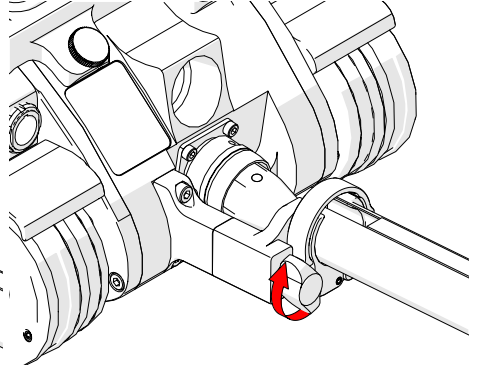

Fig. 181 - Tighten wing knob
2. Tighten the cable management clamp wing knob (*Fig. 181*).